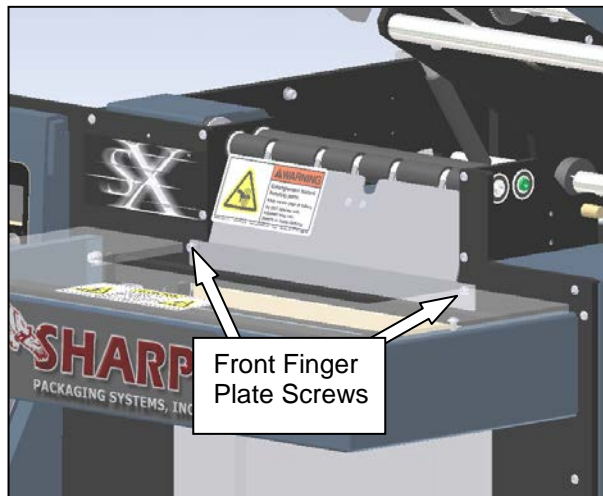

Figure 3-148. Front Finger Plate
2. Remove the two screws that hold the front finger plate onto the machine (Figure 3-148). Be careful not to pull this plate away from the machine too briskly, as the sensor is affixed to it.